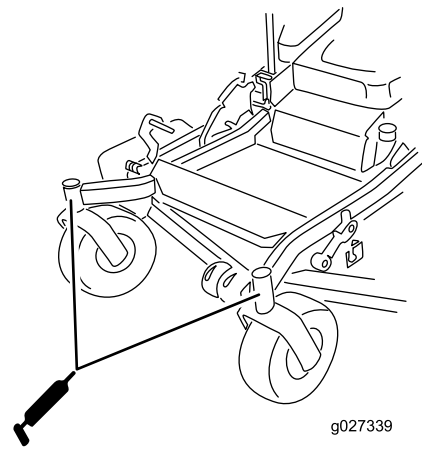

Figure 44
10. Install the hex plug and dust cap (Figure 44).